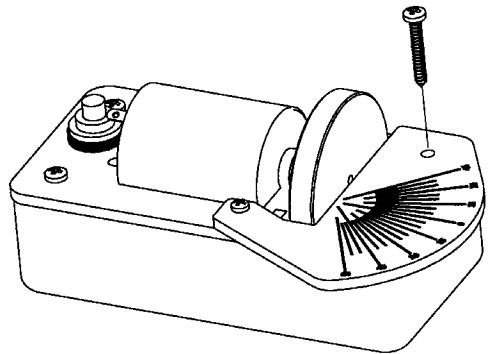

Figure 1
2. Using a #1 Phillips screwdriver, remove the sanding table screw from the location shown in Figure 1.